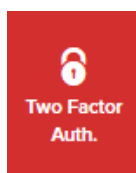

Figure 12. Partner Portal (Two Factor Auth. icon)
4. Click the **Two Factor Auth.** link on the left-hand side of the web page (**Figure 12 (page 27)**).